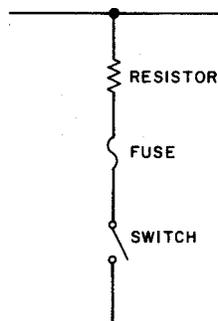

Fig. 1—Resistor, Fuse and Switch Combination
- (1) Remove each of the four fuse holders which contain the C1 and C1 ALM fuses, the C2 and C2 ALM fuses, the C3 and C3 ALM fuses, and the C4 and C4 ALM fuses, respectively.
- (2) Operate the CHG switch to the desired BAT (F) or EM CELL (EMC) position.
- (3) Connect a 10-ohm 50-watt minimum resistor, a 6-ampere 125-volt dc rated fuse, and a 15-ampere 125-volt dc rated switch (operated to the OFF position) as shown in Fig. 1.